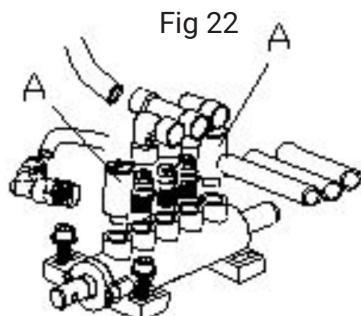

Fig 22
2. Release the valve's muffler (A) belonging to the hook's opening and closing pedals and the clinch pedal.
3. Clean the mufflers with compressed air, please replace it with reference to the spare parts list if it is damaged (Fig. 22).